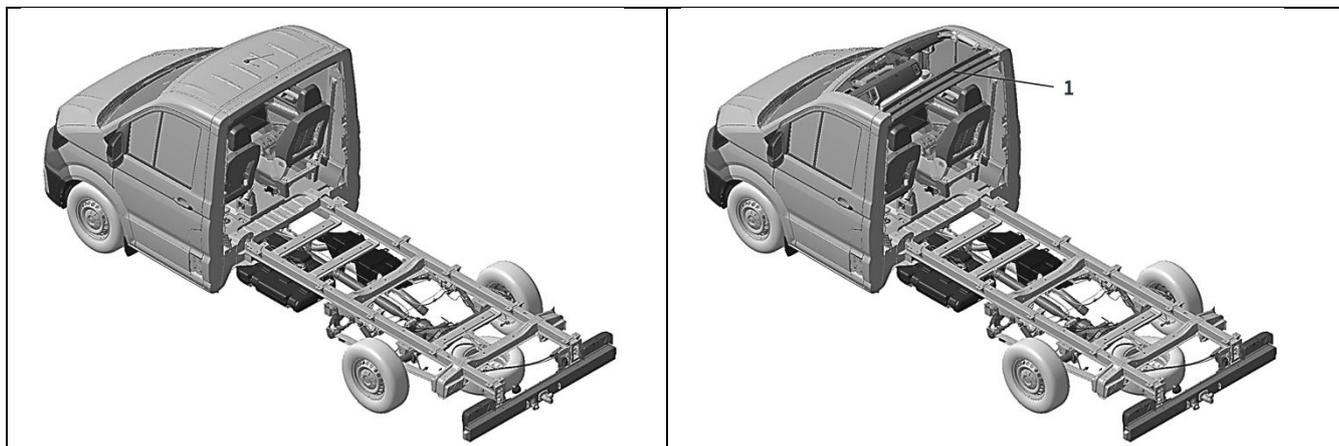

Fig. 1: Cowl panel (variant with and without cab roof)
The cab rear wall, or rear wall, and the cab roof are not included in the factory fit cowl panel (PR No. K4N) based on the single cab chassis. An auxiliary roof cross strut (1) is used above the B-pillars to brace the cab for transport on the variant without a roof. (see Fig.1 Cowl panel).